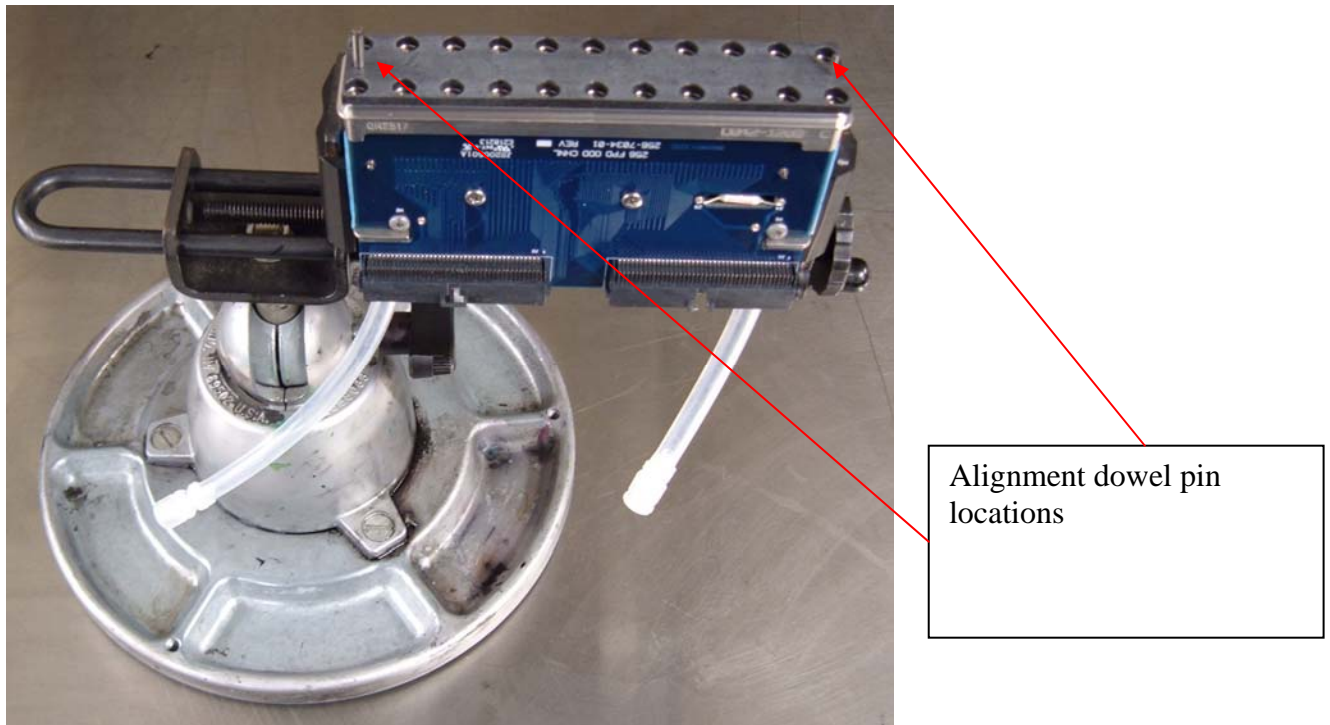
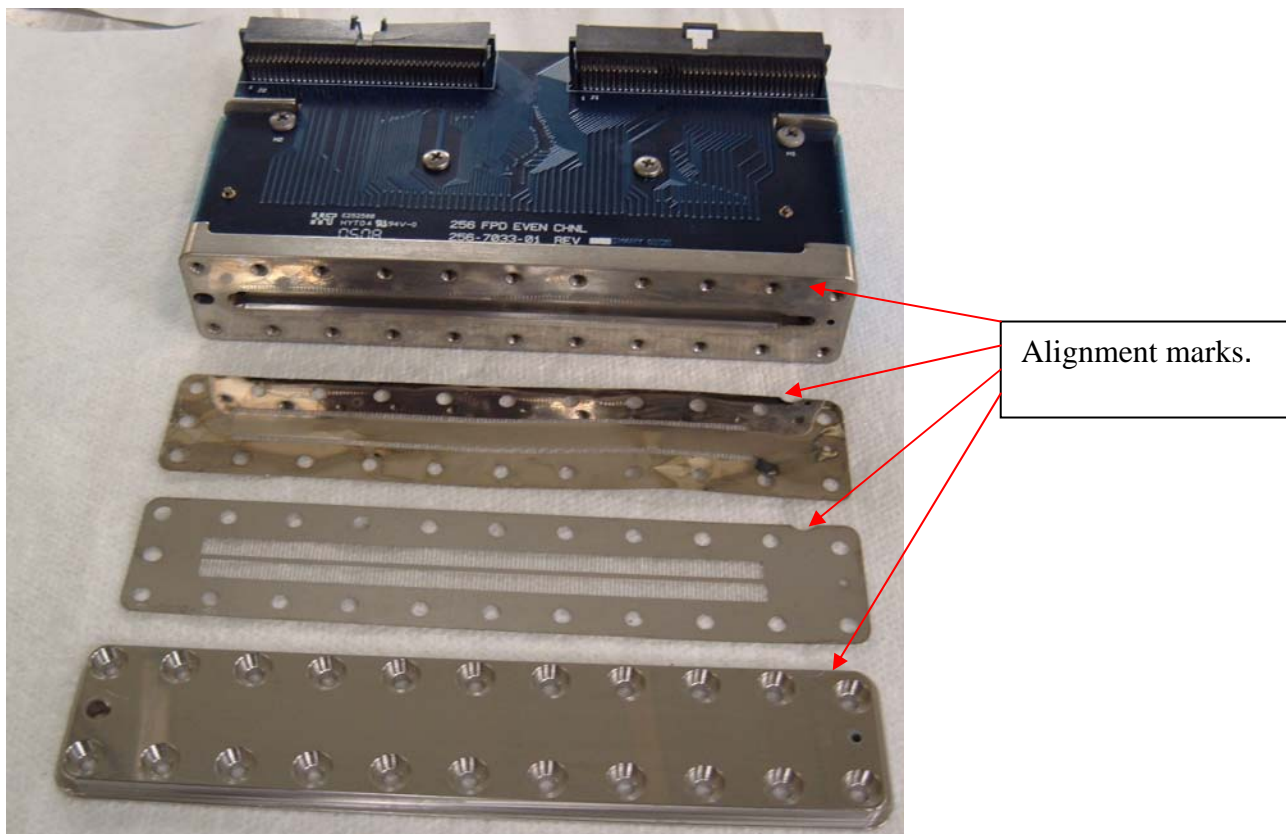

Figure 1: Dowel pin locations and showing guard plate installed.
Figure 4: Location of alignment marks on parts.
1. With the shipping cap on, with a Trident holding fixture or equivalent, secure the print head face up as shown in Figure 1. Clamp by the metal body only. Do not clamp by the PCB's.
5. Remove the print head shipping cap and insert the alignment dowel pins into the print head face and assemble the CP/OP protective guard plate (Trident P/N 187-2129-01) to the face of the printhead. See Figure 1.
2. Place Trident part number 9256-5022-02 (.0625 diameter) and 9256-5022-03 (.125 diameter) alignment dowel pins in their respective dowel holes at the front of the body subassembly. See Figure 1. Assemble the new/cleaned manifold filter/spacer plate and new/cleaned restrictor plate to backbody (in that sequence), lining up the alignment marks, ink path areas and screw hole pattern. See Figure 4 for alignment marks. Blow the chamber side of the CP/OP with filtered air. Install the new/cleaned CPOP on the backbody, lining up the alignment marks, ink path areas and screw hole pattern, and then the CP/OP protective guard plate (Trident P/N 187-2129-01).